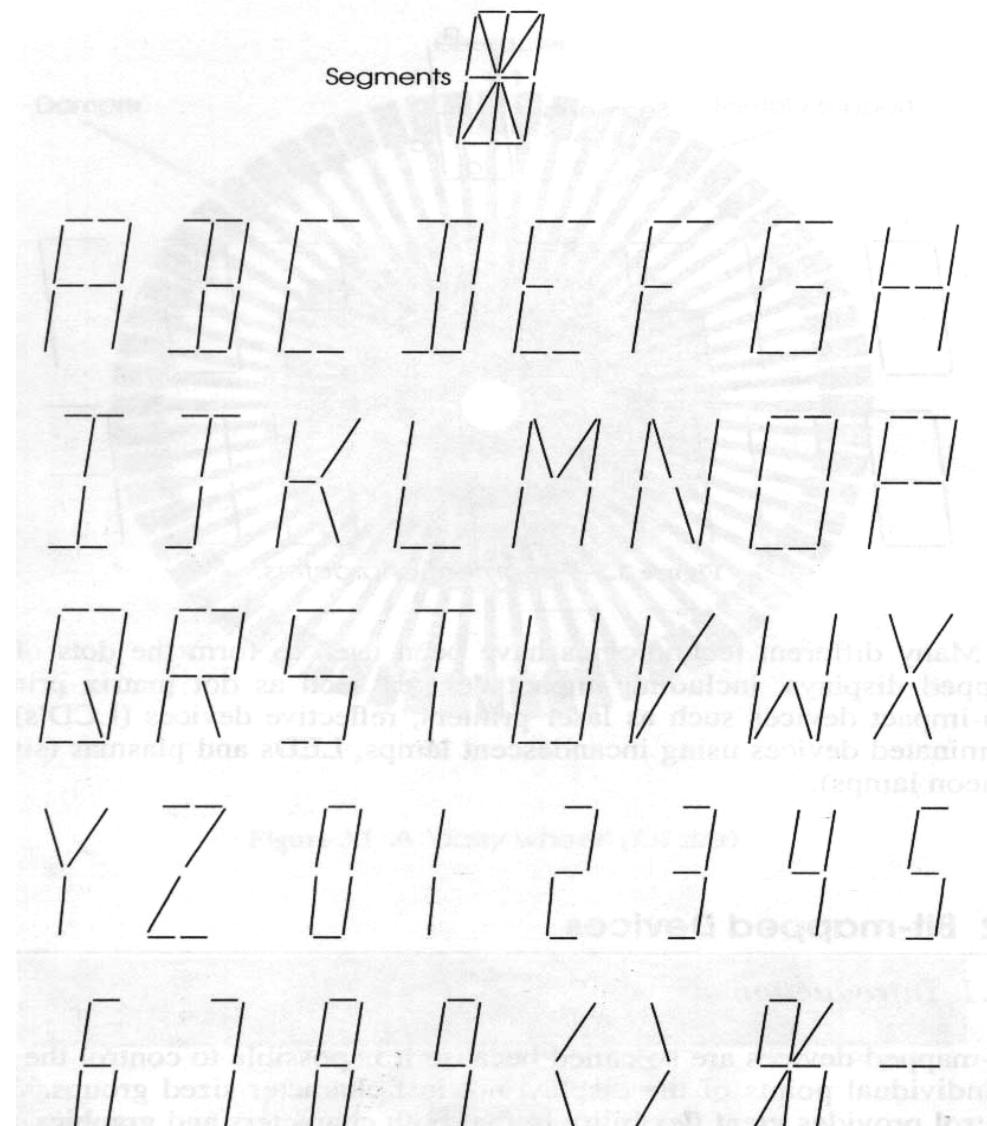

Figure 3.4 16-segment characters
- A complete alphabet, with numbers and a few other symbols, can be obtained with a 16-segment display as shown in Fig. 3.4